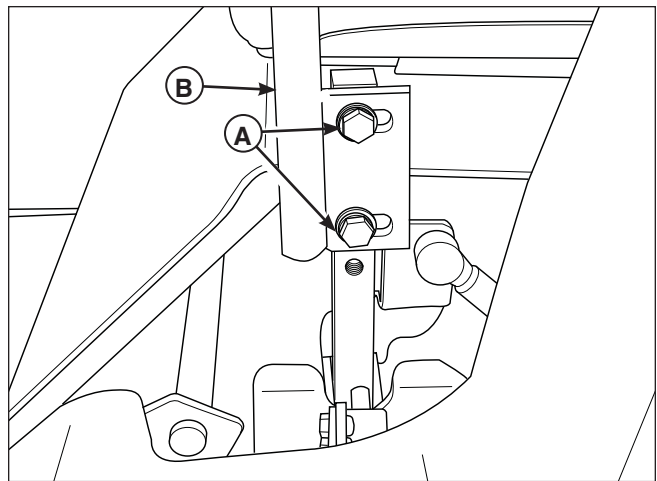

Figure 33. Control Lever Adjustment
Loosen the mount bolts (A, Figure 33) and pivot the lever(s) (B) to align with each other.